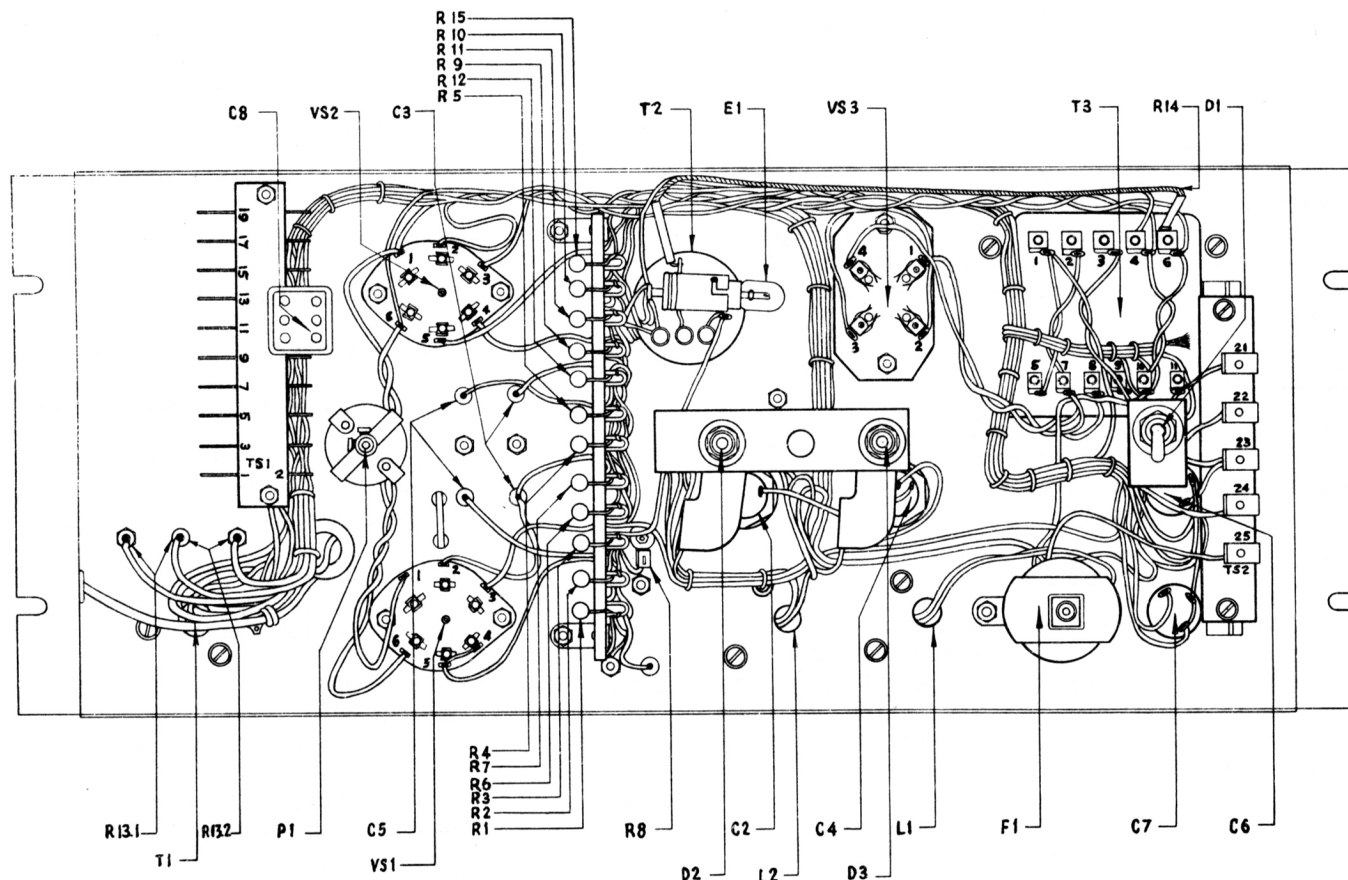

Fig. 3 - 106A Amplifier - Bottom View
3.08 Two terminal strips, stenciled TS1 and TS2, are provided on the amplifier. Fig. 3 shows the location of the strips. TS1 contains the terminals numbered from 1 to 20. These terminals are for the audio frequency circuits, cathode current meter, and plate supply for the external amplifiers. TS2 contains the terminals numbered 21 to 25 for the primary a-c power circuits. The normal connections for the terminals are as follows: